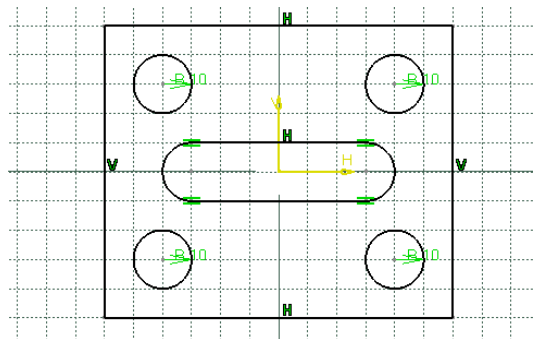

Figure 2-72 The final sketch
15. Similarly, draw the other two circles. The coordinates of the center point of the other two circles are -40,30 and -40,-30, respectively. The final sketch with the display of constraints turned on is shown in Figure 2-72.